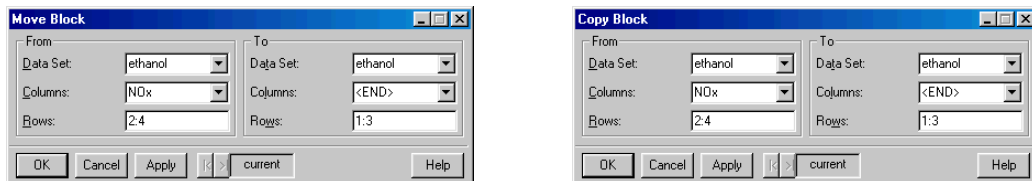

Figure 2.19: *The **Move Block** and **Copy Block** dialogs.*
1. From the main menu, choose **Data ► Move ► Block** to move the cell or block or **Data ► Copy ► Block** to copy the cell or block. Depending upon your selection, either the **Move Block** or **Copy Block** dialog opens, as shown in Figure 2.19.